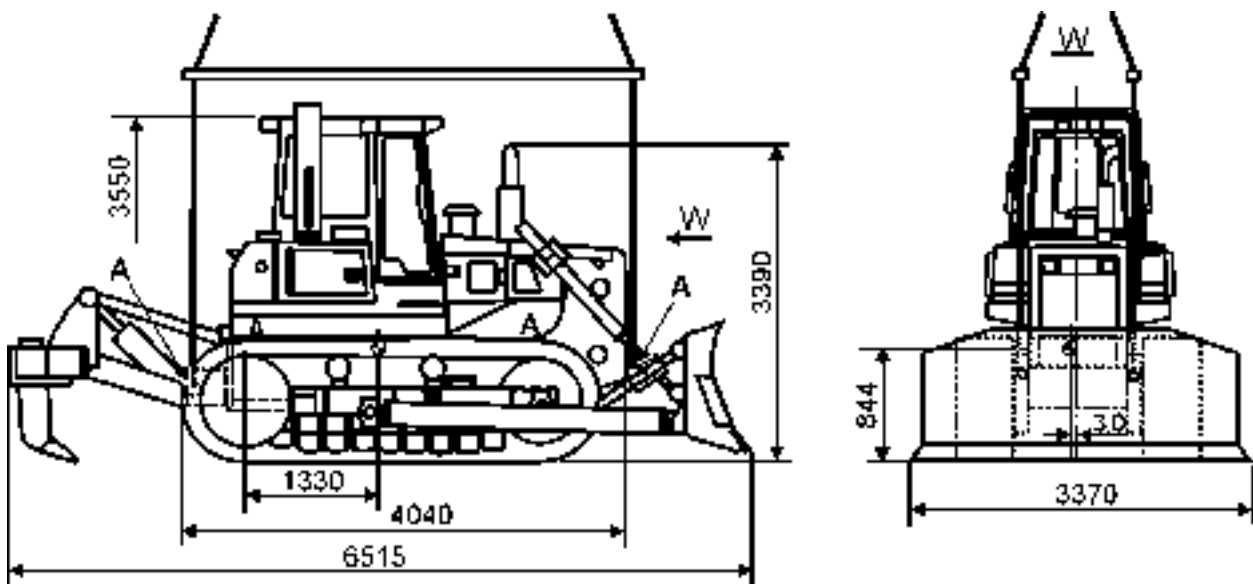

Fig. 3.1A. Lifting Machine on Slings (Machine with Lifting Eyes)
- 3B. If the machine is equipped with lifting eyes attach slings as in Fig. 3.1A in the places marked by letter "A" in the way preventing sliding out of the sling.